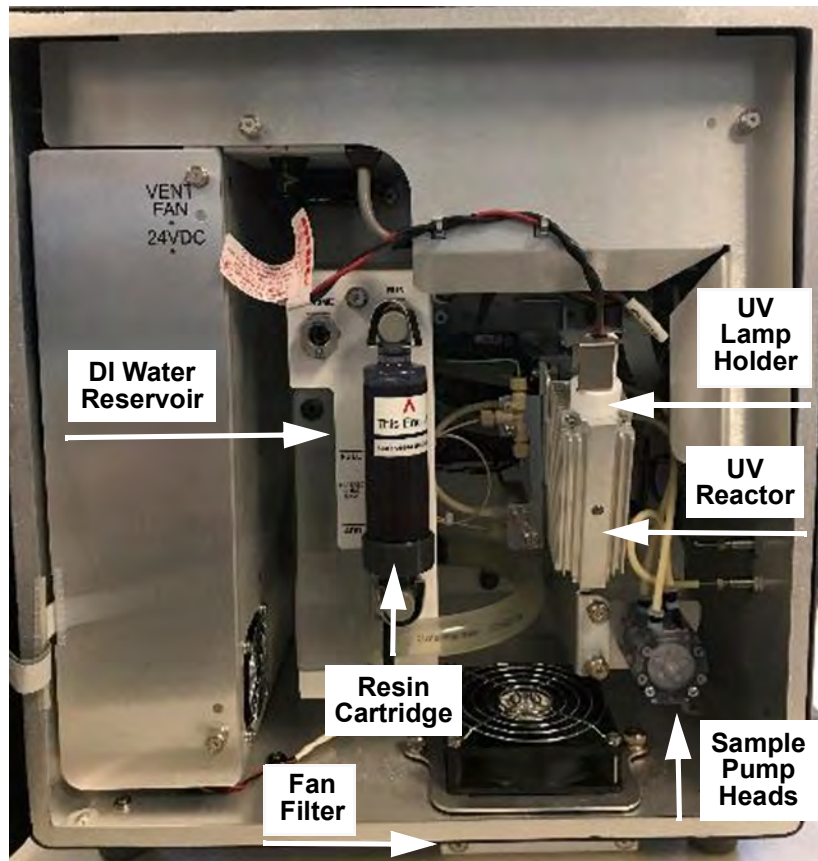

Figure 17: Interior Overview of the Analyzer
5. Locate the DI water reservoir. (See Figure 17 on page 408).
5. Locate the UV lamp enclosure at the right of the Analyzer (Figure 17 on page 408). The UV lamp has a red and black wire with a black connector extending from the UV Lamp Holder.
Have paper towels available during the procedure in case water leaks from the old pump heads during the removal process. Reference the Figure 17 on page 408, as needed.